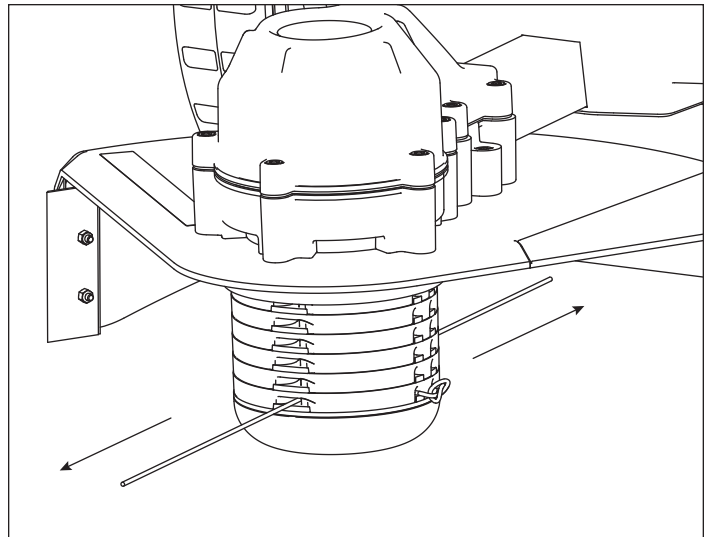

Figure 4
5. Push and pull cutting line until knot reaches head. There should now be 2 cutting lines protruding out from the head opposite each other. Only use 1 cutting line per level. Use of more than one line may jam in head. **SEE FIGURE 4**